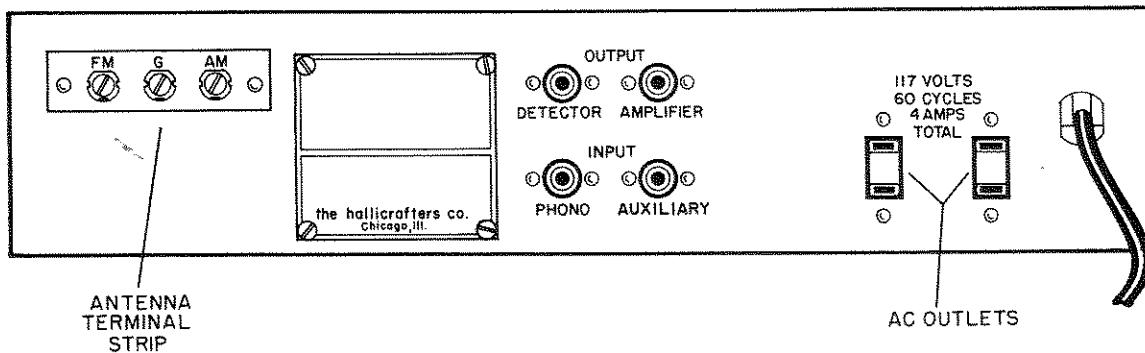

Fig. 8. Tuner Rear View
**AUXILIARY INPUT JACK.** The Auxiliary input jack (see Fig. 8) may be connected to the output of a tape recorder or the TV sound detector in a television receiver to reproduce tape recordings or TV sound through the "Super-Fidelity" Console. When using this jack, set the Selector control on the front panel at "AUX".
**DETECTOR OUTPUT JACK.** The Detector output jack (see Fig. 8) may be connected to the input of a tape, disc, or wire recorder to record radio broadcasts. When this jack is used, the entire audio system of the "Super-Fidelity" Console is bypassed, including the amplifier and tone controls. The amount of signal fed into the recorder may be regulated by means of the Volume control on the front panel.